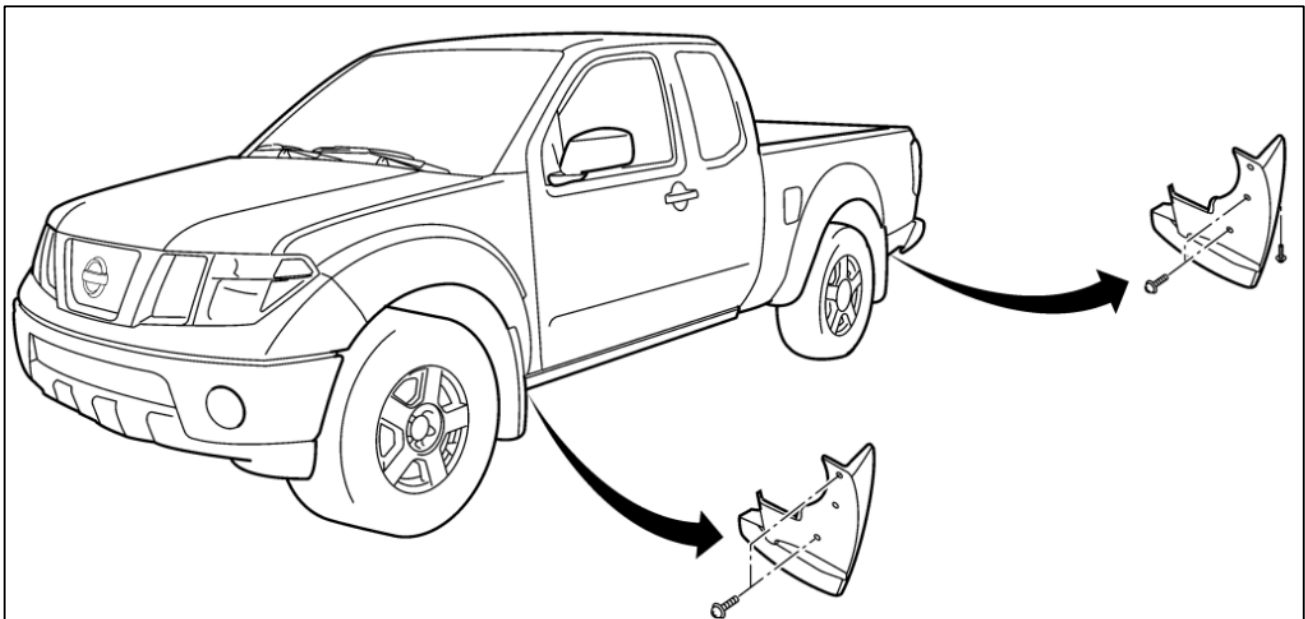

Figure 7
12. Remove the OE Fender Mud Guards from the vehicle. *Figure 7*.